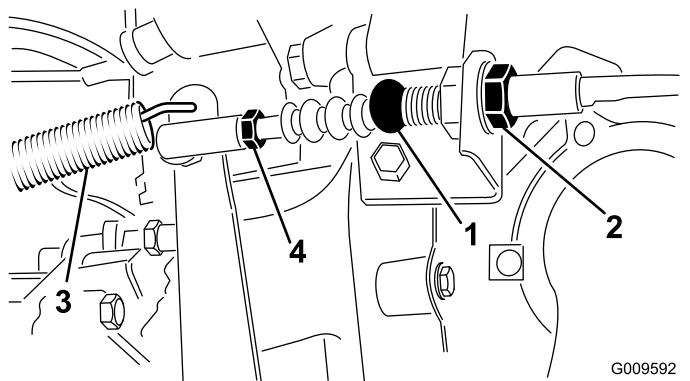

Figure 59
1. Loosen the jam nuts securing the clutch cable to the bracket on the bell housing (Figure 59).